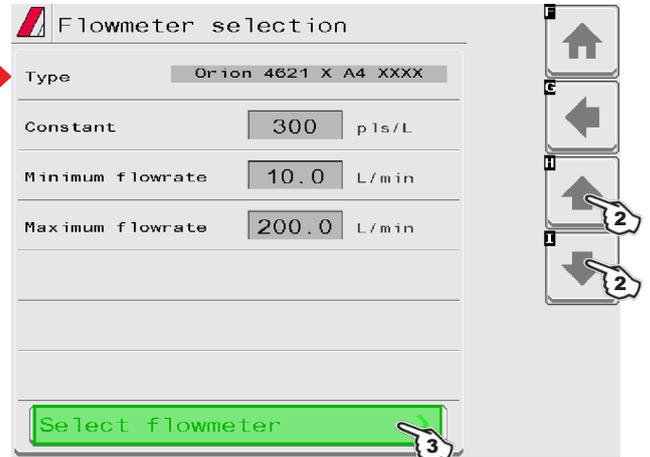

Fig. 41
- 1 Set installed flowmeter by selecting it from the list in Fig. 41 (use keys 2 to scroll items, and key 3 to confirm).